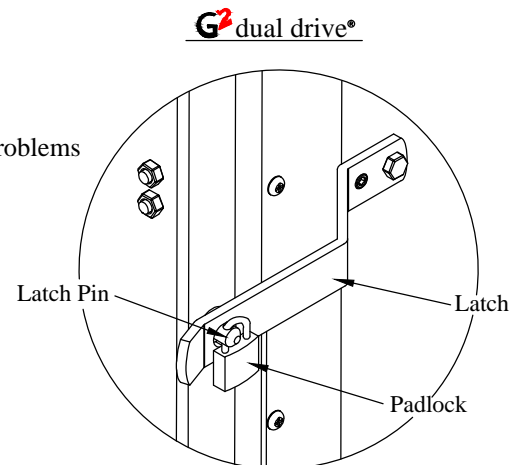

Figure 28: Padlock location.
9. **Lock** the padlock through the hole in the platform (Figure 28).